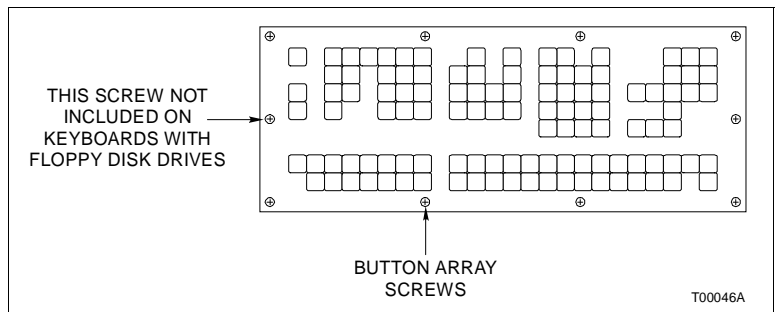

Figure PR61-1. Keyboard Button Array
2. Use the Phillips head screwdriver to remove the nine button array screws that secure the keyboard button array to the keyboard base (Fig. PR61-1).